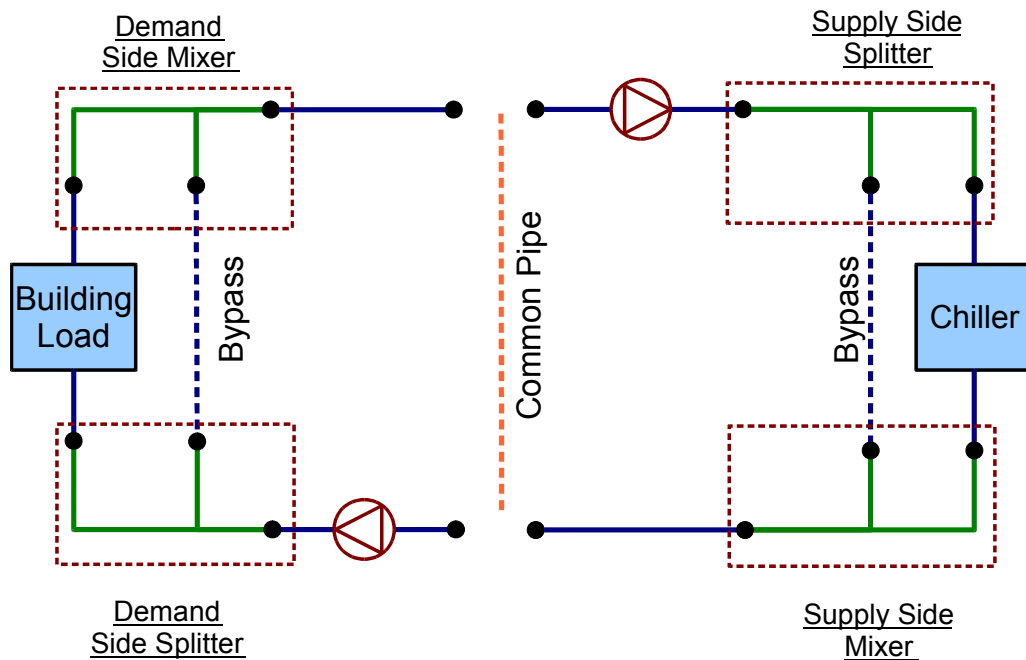

Figure 9 - Splitters and mixers in the loop
7. **Identify the position of the connectors in the system.** The *PlantLoop* accepts only one splitter-mixer pair per half loop. The connectors are defined by using branches; a splitter can have one inlet branch and any number of outlet branches whereas a mixer can have any number of inlet branches and one outlet branch. All the connectors in the loop are denoted by the green lines in Figure 9.